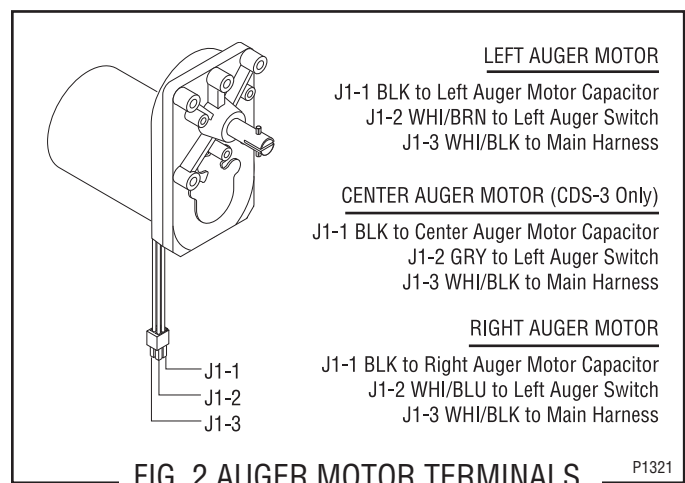

FIG. 2 AUGER MOTOR TERMINALS
10. Refer to Fig. 2 when reconnecting the wires.